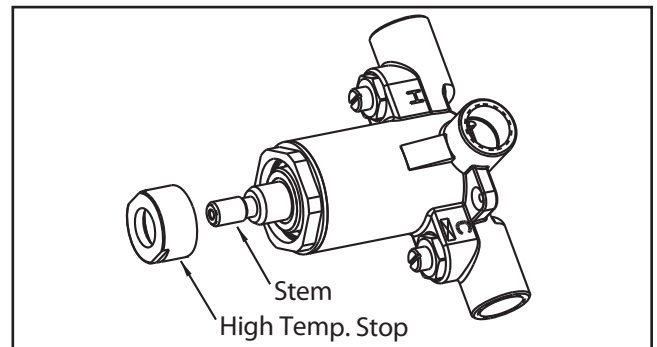

Figure 5: Max. Temperature Setting
- Maximum temperature setting adjustment (see Figure 5) must be set on the job to in no case greater than 110°F (43°C). The high temperature limit stop is located on the bonnet. Rotate handle to the maximum desired outlet temperature. With an open-end wrench, screw high temperature limit stop into bonnet until it touches stem's shoulder. Close valve and open it to full hot to verify settings.